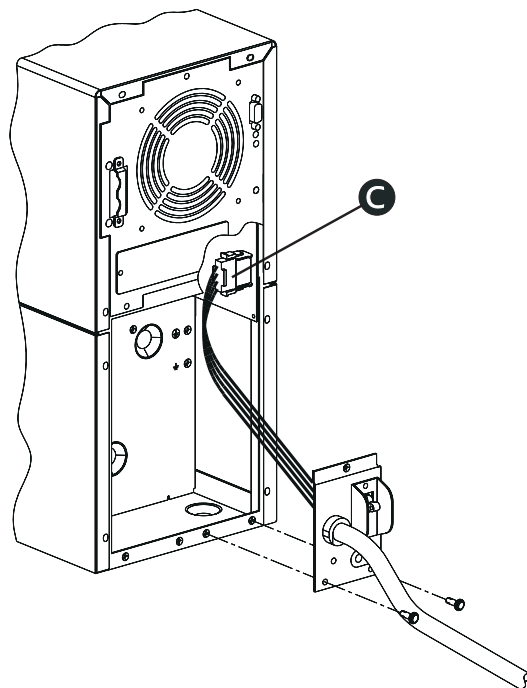

Figure 5-10 Removal of Input Panel (208V Tower)
1. Remove the two bottom screws from the input panel as shown in Figure 5-10.
- B. Retrieve the old line cord and cut the last 6" from the end with the 4-wire connector attached. This connector and the attached wires will be spliced to your input line. Using approved field-applied splicing devices, connect the two black wires to Line1 (or Hot) of your input line and the two white wires to Line2 (or Neutral) of your input line. Plug the connector into the mating connector in the UPS (Figure 5-10) and reinstall the input and output panels.
4. *Connect the “male” end of the jumper harness into the 4-pin plug located inside the UPS. (Connector **C** in Figure 5-10)*